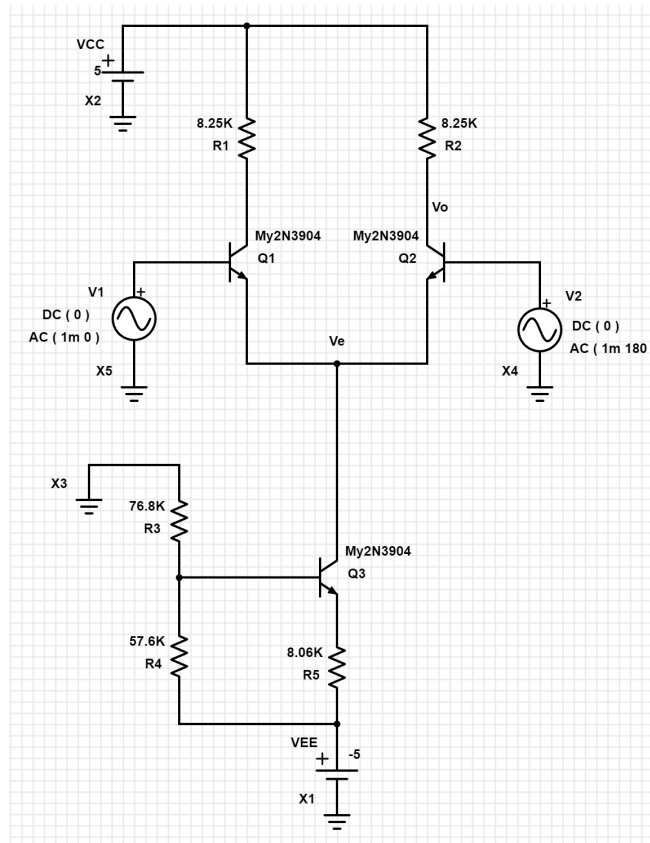

Fig. 5 Schematic diagram of the differential amplifier for differential-mode analysis
- 3.1 We want to analyze its characteristics for DC differential-mode signal V_{DM} , followed by the AC common-mode signal v_d . Here the voltage sources V_1 and V_2 in Fig. 5 provide both DC and AC voltages to the inputs of the differential amplifier.
- 3.3 **Frequency Response:** Set the DC values of V_1 and $V_2 = 0$ V and their AC amplitude 1 mV. For the differential-mode signal, set the phases of the AC signal V_1 and V_2 to be 0° and 180° , respectively, as shown in Fig. 5. In this setting, the differential-mode signal $v_{id} = V_1 - V_2 = 1$ mV – $(-1$ mV) = 2 mV. Conduct AC analysis for V_o in DEC with Start Frequency = 100 Hz, Stop Frequency = 10 MHz, and Total Points Per Decade = 101. Choose REAL for magnitude unit and degree (DEG) for phase unit. Record the simulated magnitude and phase of V_o in the sheet “Step 3.3 of the Excel file “Lab 2 – Single-Stage Amplifier.xlsx”.
- 3.4 Based on Fig. 5, construct the measurement setup for the differential amplifier. Use $V_+ = 5V$ for V_{CC} , $V_- = -5V$ for V_{EE} , Wavegen 1 (W1) for V_1 and Wavegen 2 (W2) for V_2 . Connect GNDV+, GNDV-, GNDW1, and GNDW2 to a common ground line.